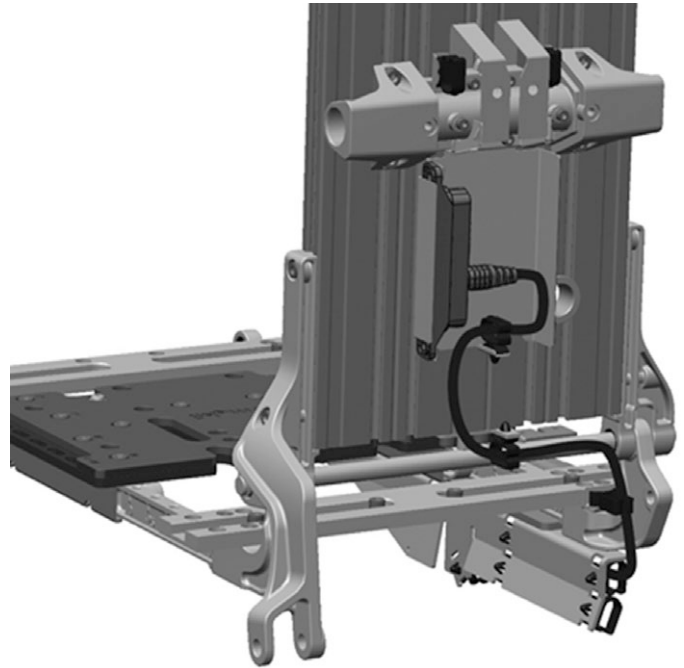

Figure 138. The Rnet bus cable is connected to the connector block and mounted in two cable brackets at the back of the back rest.
1. The Rnet bus cable is connected to the connector block and mounted in two cable brackets at the back of the back rest. See fig. 138.